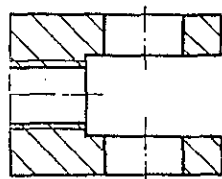

FIG. 6.1
- (a) List a selection of six commands necessary to produce the drawings shown in Fig. 6.1.